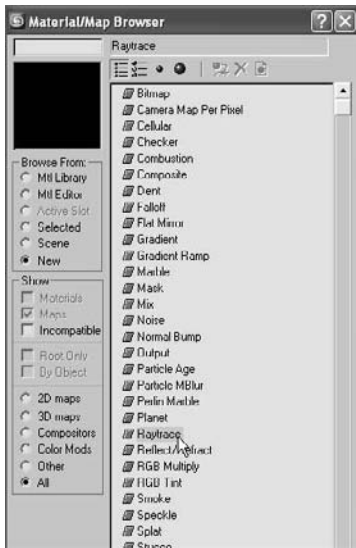

Figure 11.41
- In the Maps rollout, click the mapping bar labeled None next to Reflections. Choose the Raytrace map in the Material/Map browser, as shown in Figure 11.41.